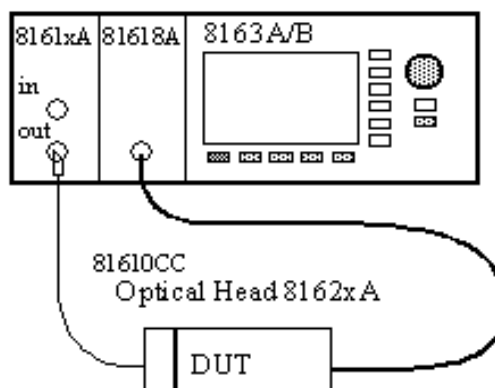

Figure 5 Return Loss Reference Setup
- 2 Connect the equipment as shown in Figure 5 .